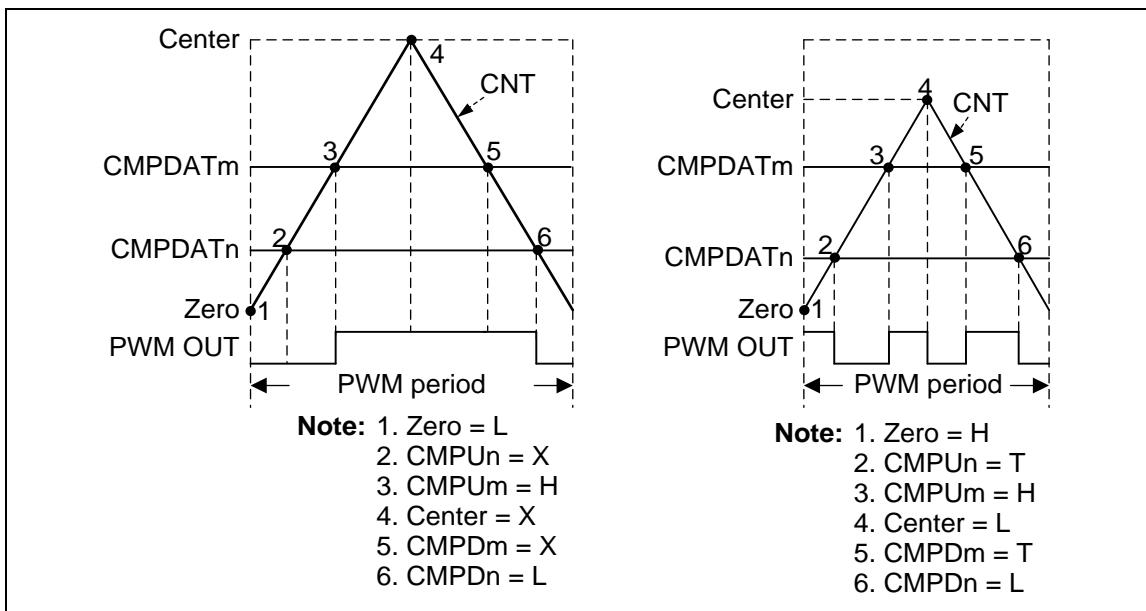

Figure 6.9-17 PWM Pulse Generation
Each event point can decide PWM waveform to do nothing (X), set Low (L), set High (H) or toggle (T) by setting the PWM\_WGCTL0 and PWM\_WGCTL1 registers. Using these points can easily generate asymmetric PWM pulse or variant waveform as shown in Figure 6.9-17. In the figure, PWM is in complementary mode, there are two comparators n and m to generate PWM pulse. n denotes even channel number 0, 2, or 4, and m denotes odd channel number 1, 3, or 5. n channel and m channel are complementary paired. Complementary mode uses two channels (CH0 and CH1, CH2 and CH3, or CH4 and CH5) as a pair of PWM outputs to generate complement paired waveforms. CMPU denotes CNT is equal to CMPDAT when counting up. CMPS denotes CNT is equal to CMPDAT when counting down.